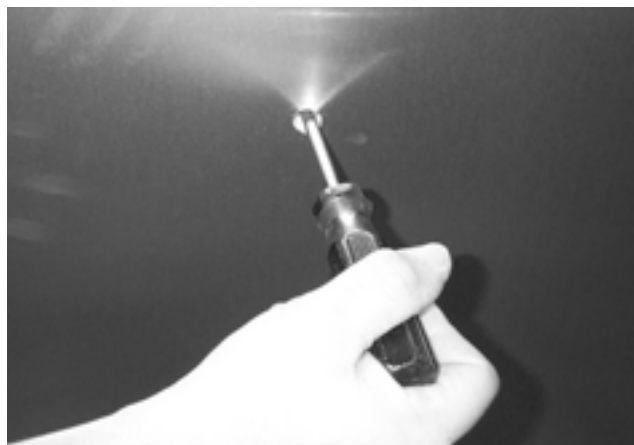

Figure 4-43
3. Remove out the two mounting screws and remove the door handle (Figure 4-43).